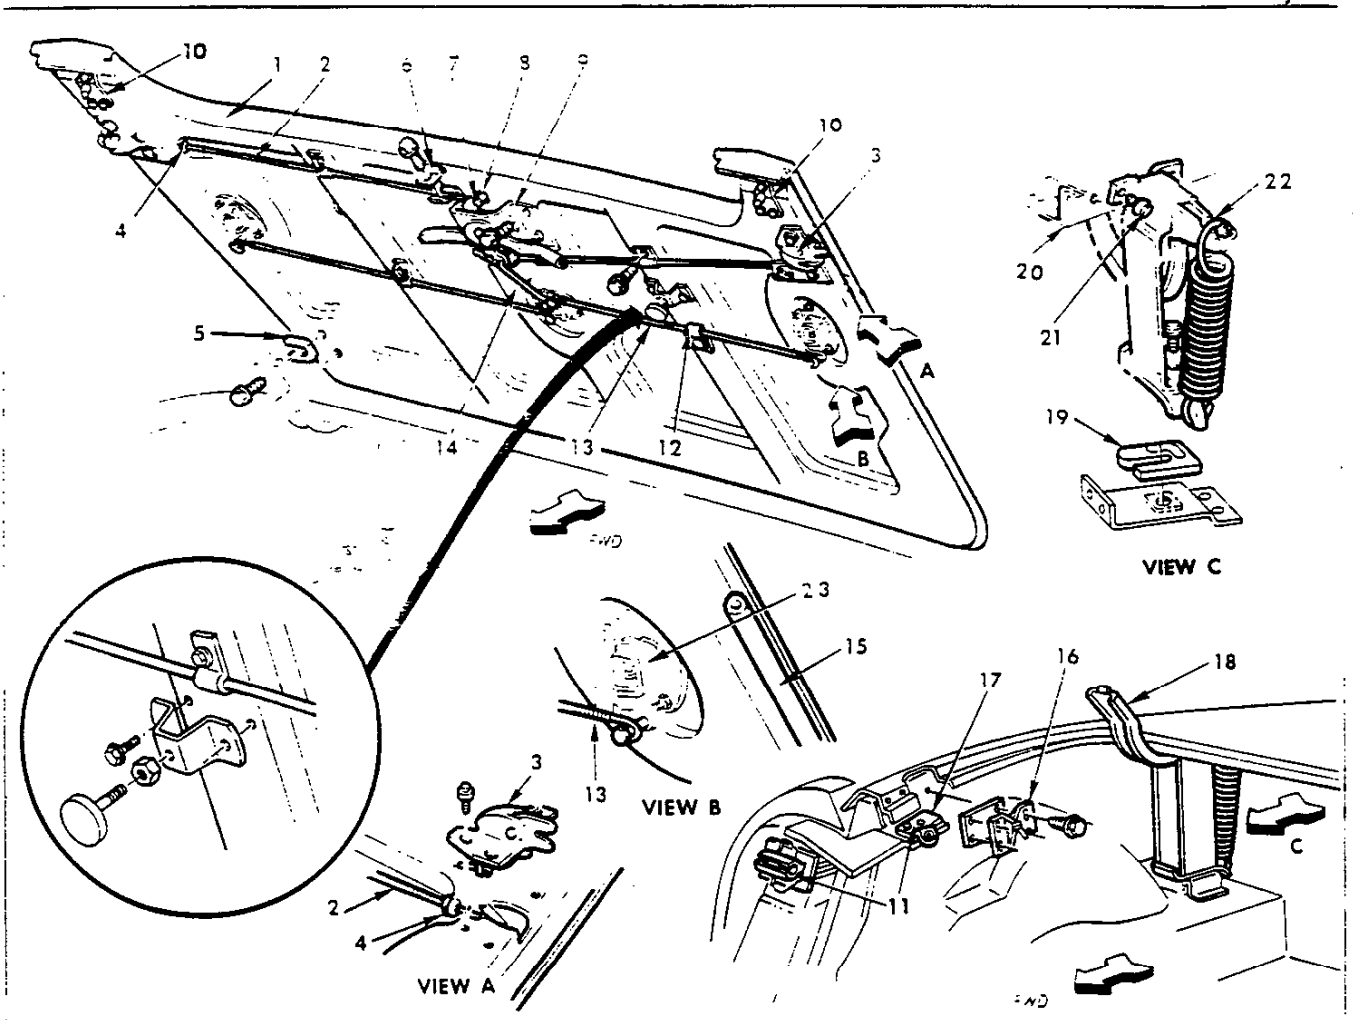

Fig. 40—Folding Top Lid Assembly
#### FOLDING TOP COMPARTMENT LID (Fig. 40)
**Closing (Fig. 40)**